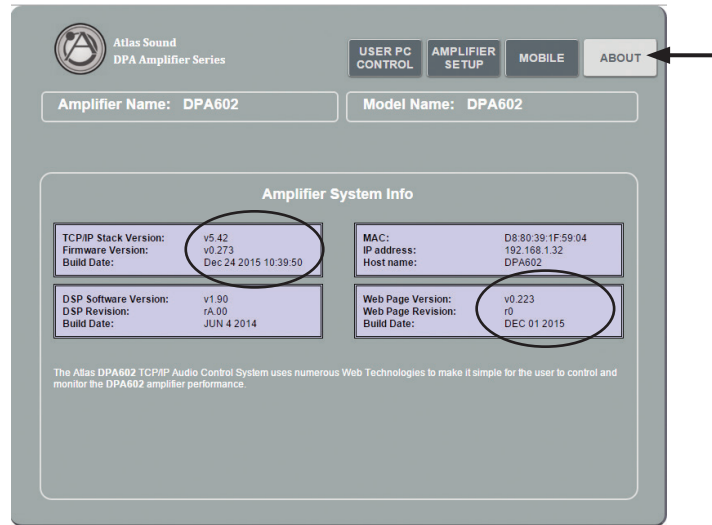

Figure 6
1. About Page - To gain access to feature enhancements or bug fixes, it may be required to update the firmware on the amp. The About Page contains information such as the MAC address and firmware versions. There are 2 types of firmware that may need upgrading, **Host (HEX)** firmware and **Web (BIN)** firmware. This is illustrated in Figure 6.